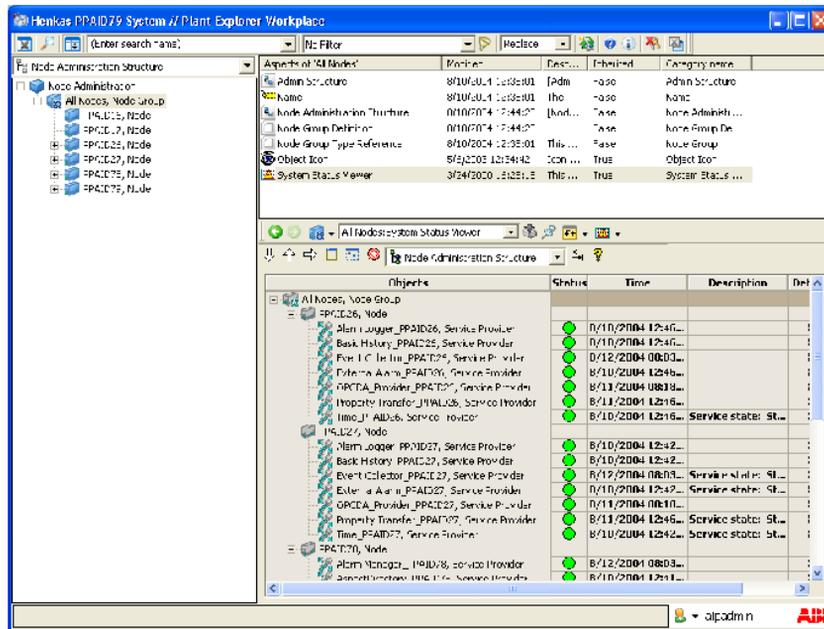

Figure 3. Verifying that Connectivity Servers and Services Are Running
- c. Use the Object Browser to navigate to and select All Nodes, Node Group as shown in Figure 3.